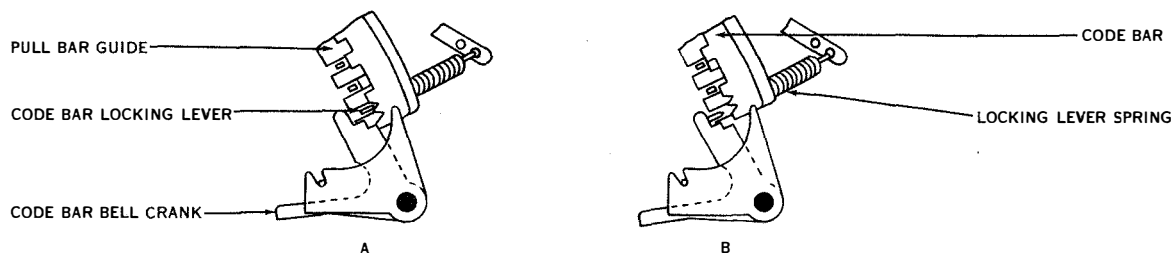

Figure 2-36. Code Bar Locking Lever
(d) During the first part of the upward stroke of the main bail, a locking lever (figure 2-36) is brought into engagement with the "V" shaped notches in the code bars. The code bar locking lever is located in the extreme right-hand slot of the pull bar guide. It is similar to the pull bars, but does not have the hook-like projection on its rear edge. After each of the code bars has been positioned in accordance with the five selecting impulses, the locking lever spring pulls the lever into engagement with the notches in the code bars. This locks the code bars in position after each selection and holds them in that position until the main bail nears the end of its downward stroke and cams the locking lever out of engagement. When the code bars are not engaged by the locking lever, they are free to be positioned by the selector swords and T levers.
(7) PERFORATING MECHANISM.—The code bar bell cranks lie between separator plates and pivot on a vertical stud (see figure 2-36). The forward ends of the code bar cranks make contact with the upper ends of vertical links which pivot on a horizontal stud. The lower ends of the vertical links connect with the upper ends of intermediate bell cranks which pivot on a horizontal stud. The forward ends of the intermediate bell cranks are notched and engage the right ends of the five punch bell cranks. The lower left ends of the punch bell cranks extend into notches in the punch selector fingers.